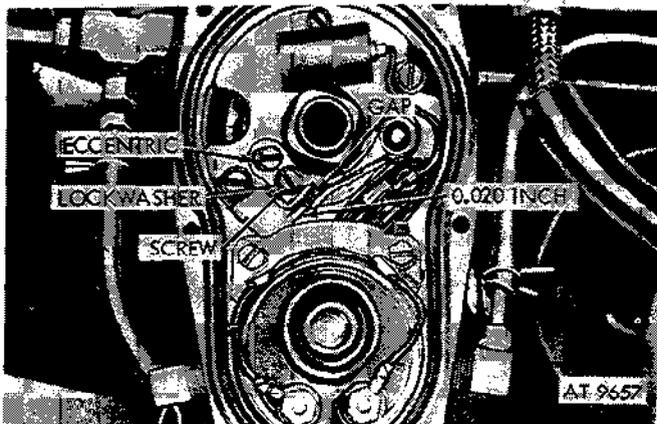

FIGURE 2-156. Adjust point gap.
(6) Install new coil assembly into distributor base and secure with lock tab and two screws. Route the filter capacitor wire and coil wire through the clamping ears and into the opening provided in the lock tab. Torque retaining screws to 40-50 lbs. inch. Position head of screw within the torque range so that one of the lock tabs can be bent up parallel again one the hex. head flats (fig. 2-156).
(1) Crank the engine until the rubbing block on movable breaker point rests on the peak of a cam lobe (fig. 2-156).
(2) Loosen stationary breaker point mounting screw and lockwasher (fig. 2-156).
(3) Adjust point gap with adjuster screw (fig. 2-156) until gap is 0.017 to 0.022 inch. Tighten contact mounting screw and lockwasher 5-20 lb. in.